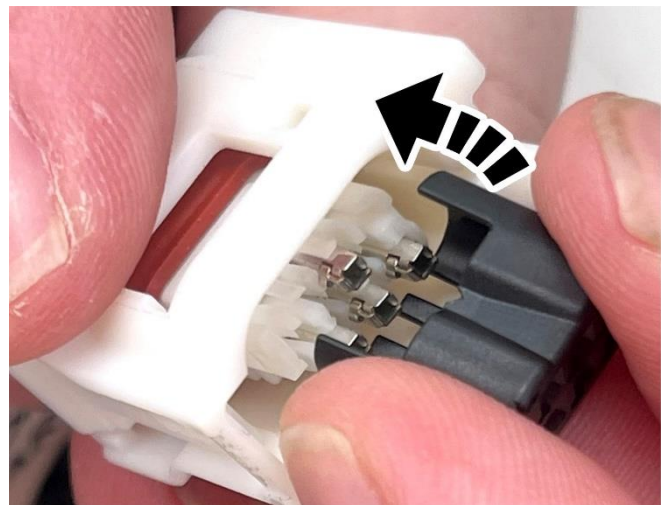

Figure 8 – Wedge Installation
16. Install the wire wedge in the connector (Figure 8).